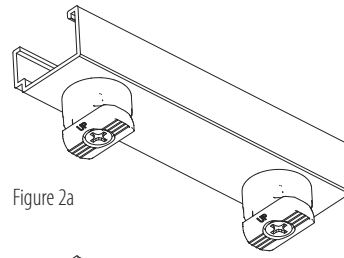

Figure 2a
- a. If Quick Lock connectors are pre-installed (Figure 2a) check tightness for a snug fit.